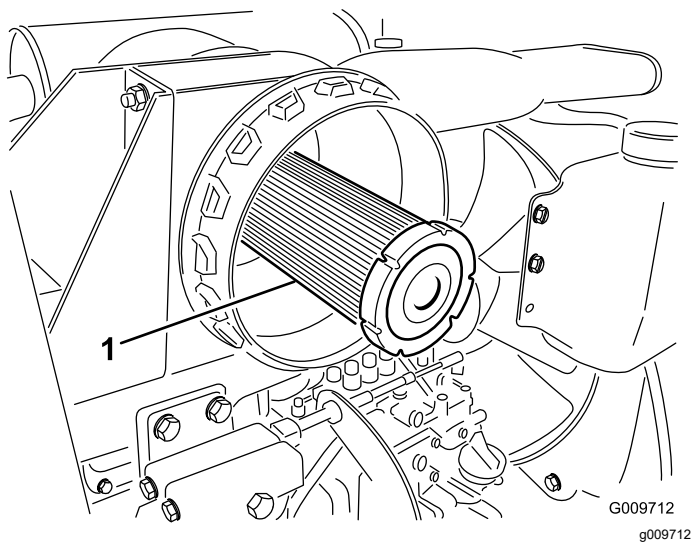

Figure 43
**Important:** Never attempt to clean the safety filter (Figure 43). Replace the safety filter after every 3 primary filter services.